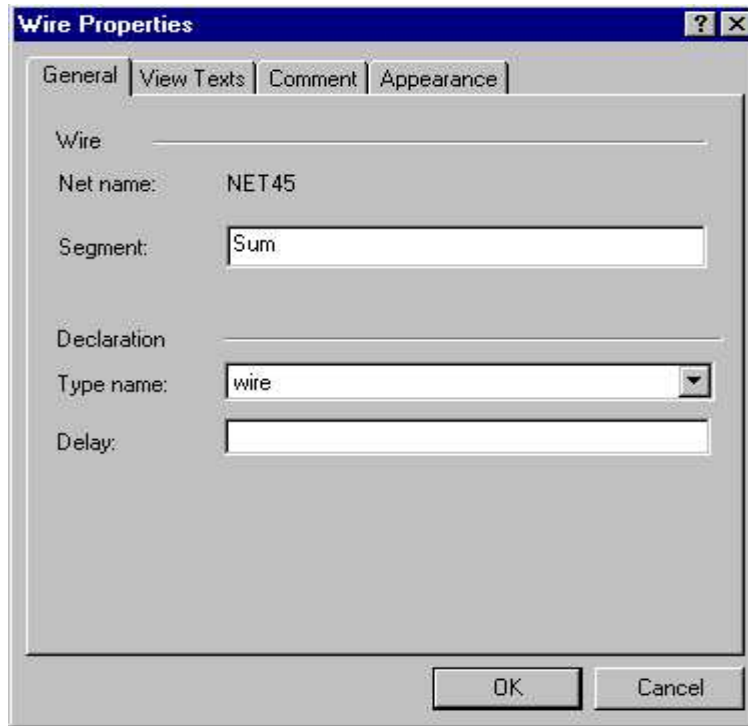

Figure 23
2. In the “Segment:” field under the General tab, type the name (Figure 23).